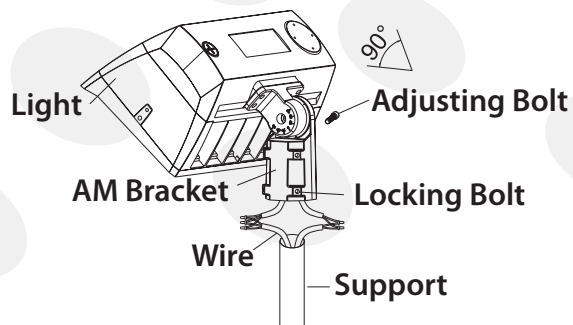

Figure 5
1. ADJUSTABLE FITTER MOUNTING (AM)
Step 1: Connect the wire correctly and put the wire into pole. Then fasten the locking bolts between slip fitter and the pole. (Figure 5)
Notice: Adjustable angle is 0~+/-90° (Figure 5)